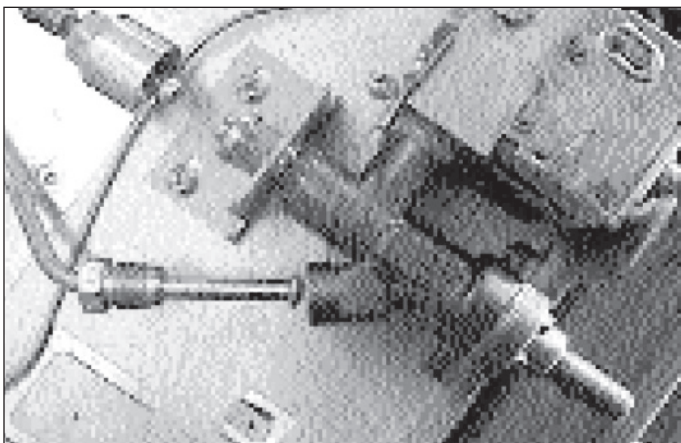

Figure 5-20.
6. Replace the complete gas control valve. (See Figure 5-20)